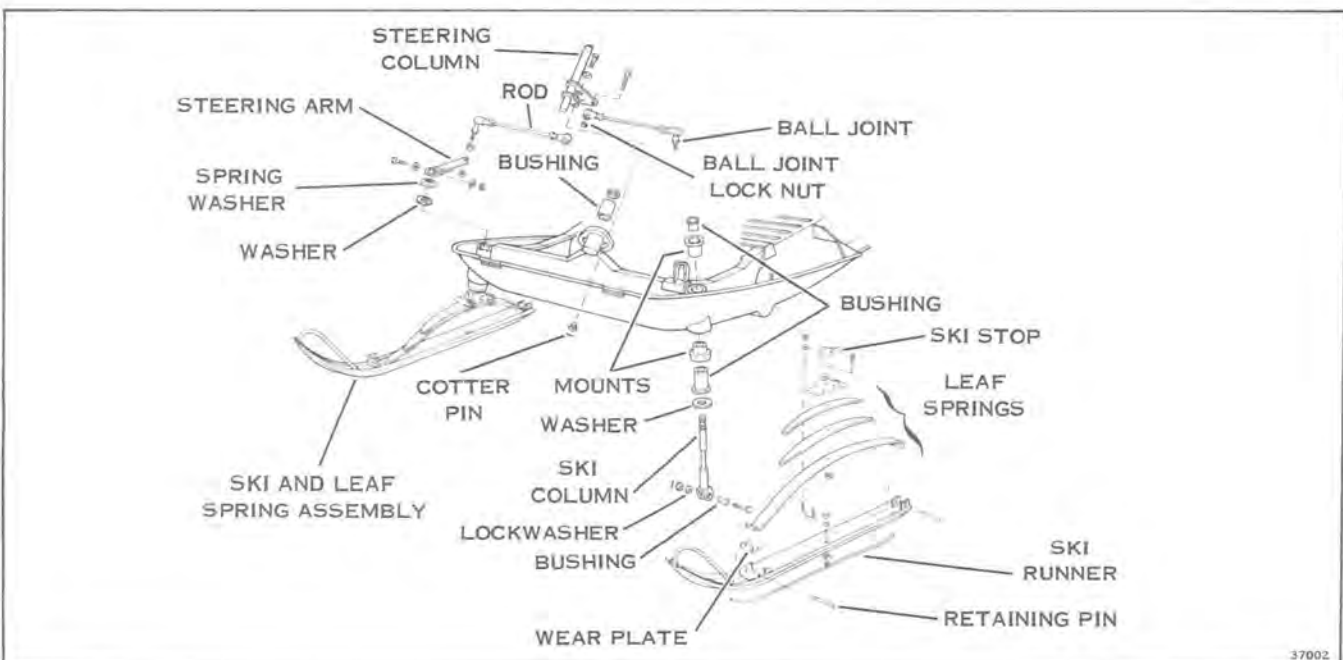

Figure 11-2
- c. Identify ski columns as left or right for correct reassembly. Remove steering arm from ski column. See Figure 11-2.
- b. Inspect steering column bushing and replace if worn. See Figure 11-2.